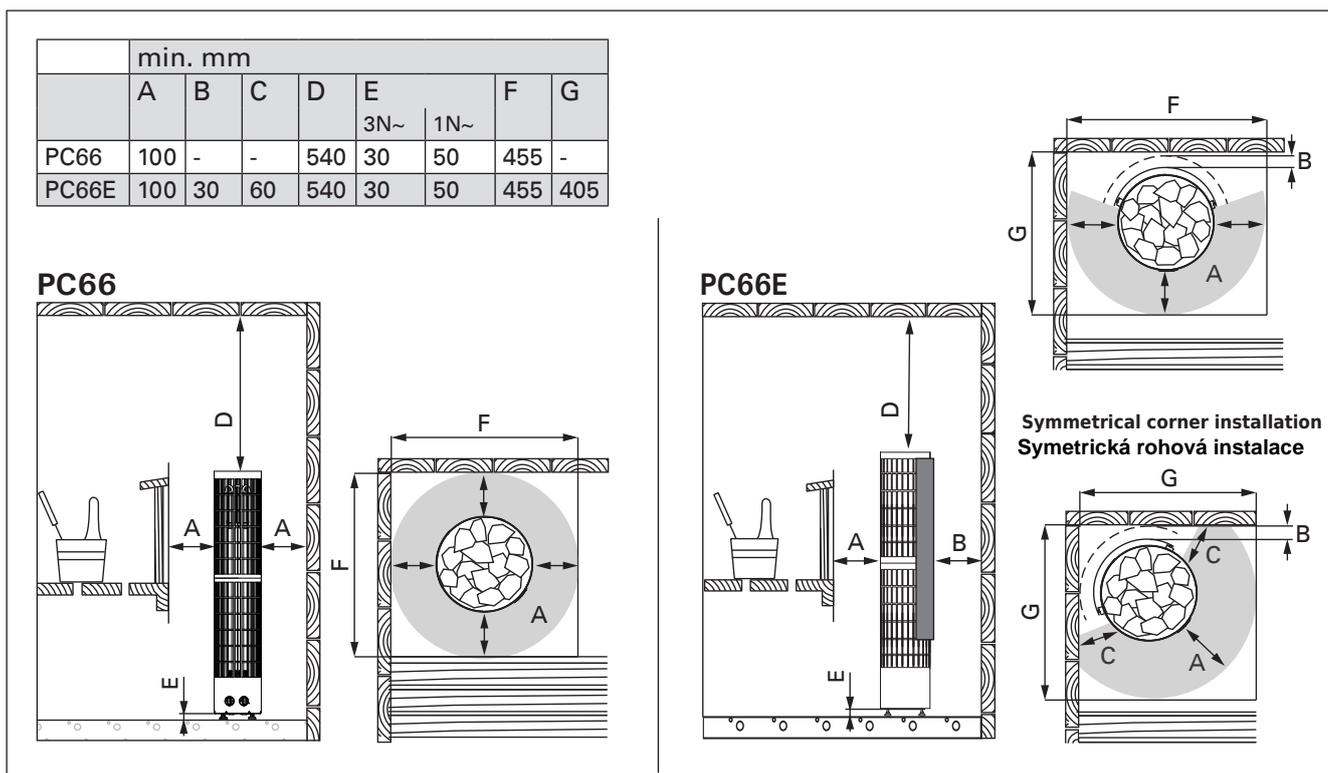
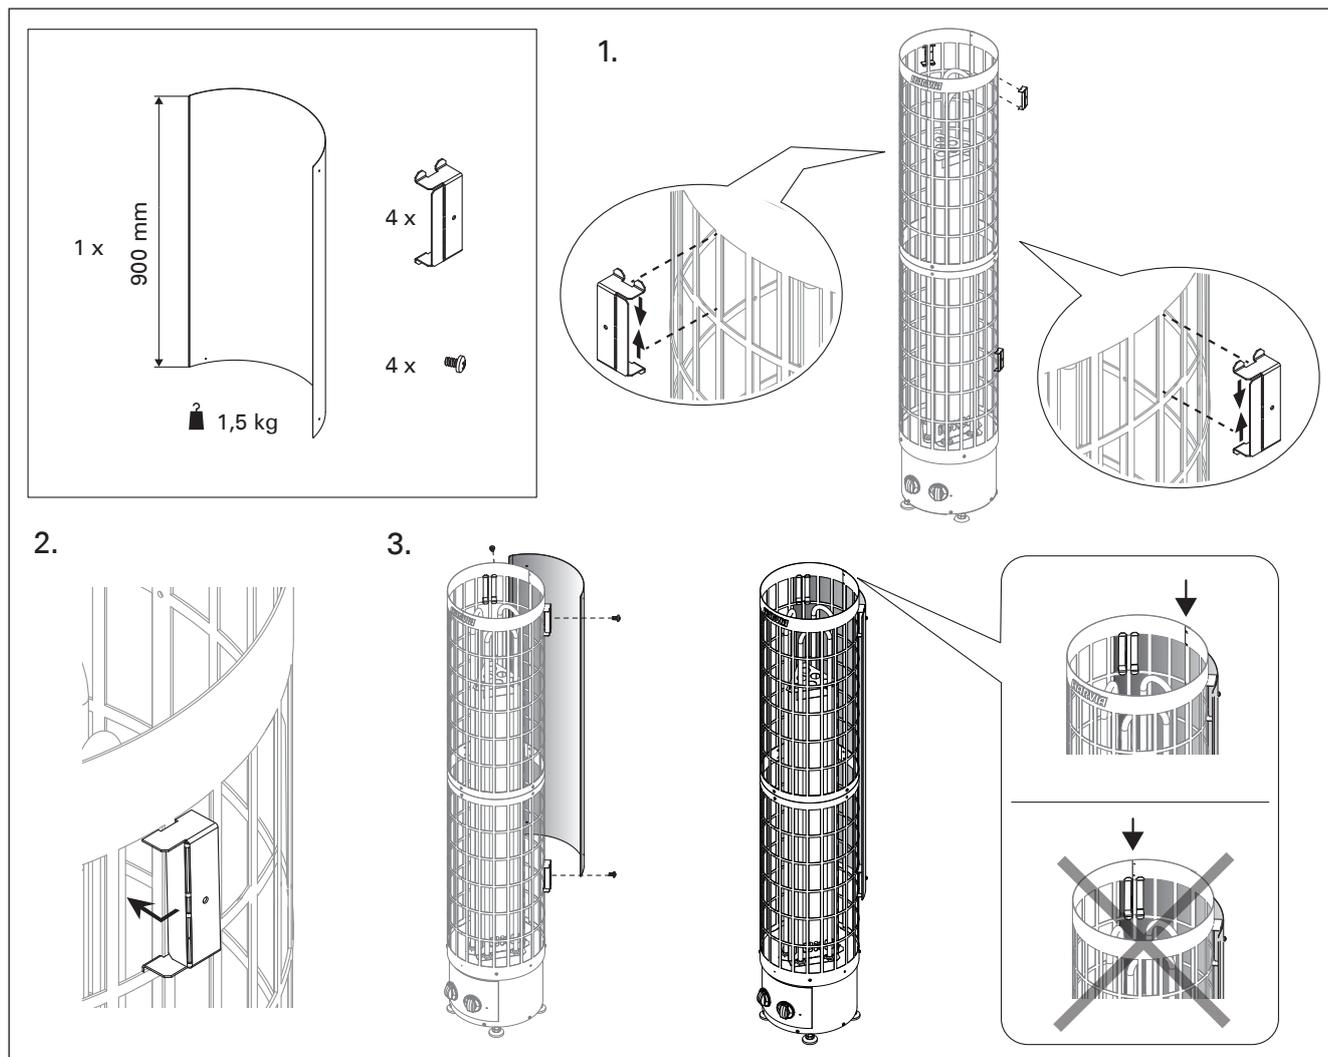

Figure 6. Safety distances (all dimensions in millimeters)
Figure 7. Installing the protective sheath
The minimum safety distances are described in figure 6.
See minimum safety distances for protective sheath from figure 6 and instructions for installation from figure 7.
**Note! PC66E: Protective sheath is mandatory!** If protective sheath is installed to the PC66 heater, you must follow the same minimum safety distances as PC66E (figure 6).